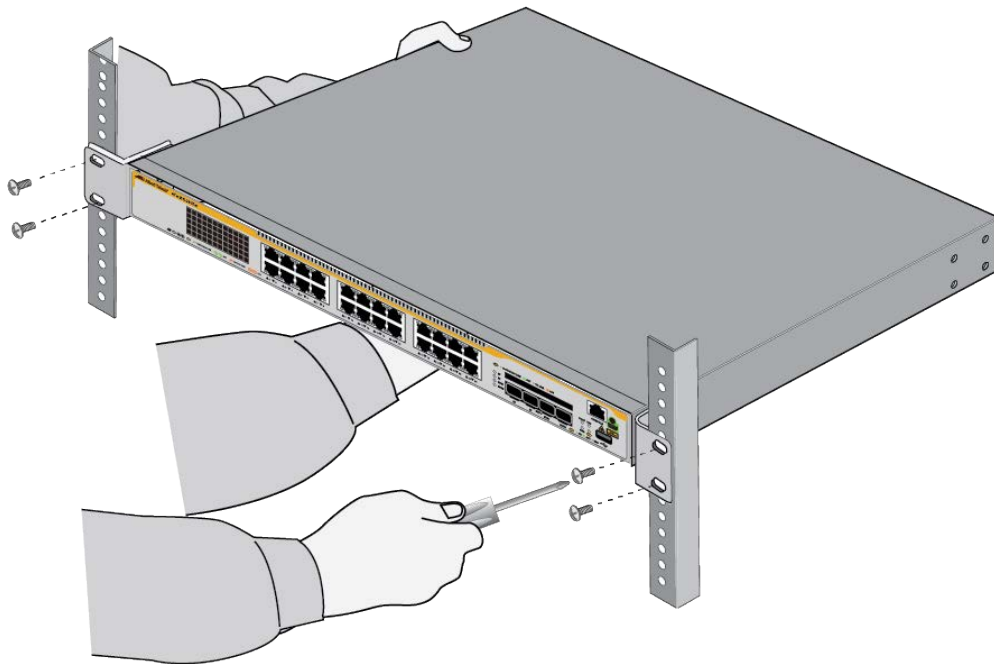

Figure 20. Installing the Switch in an Equipment Rack
6. Have another person hold the switch in the equipment rack while you secure it using standard equipment rack screws (not provided). See Figure 20 on page 56.